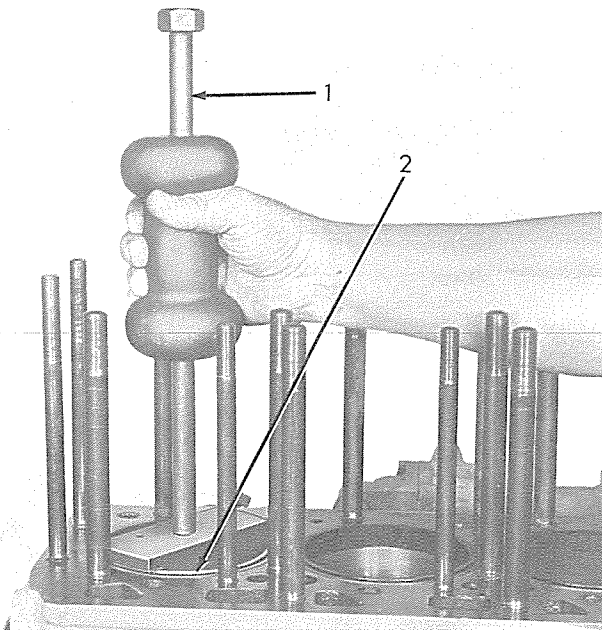

Fig. 3 — Removing Cylinder Sleeve — Top View
3. Remove cylinder sleeves using removal tool as shown in Figs. 3 and 4.